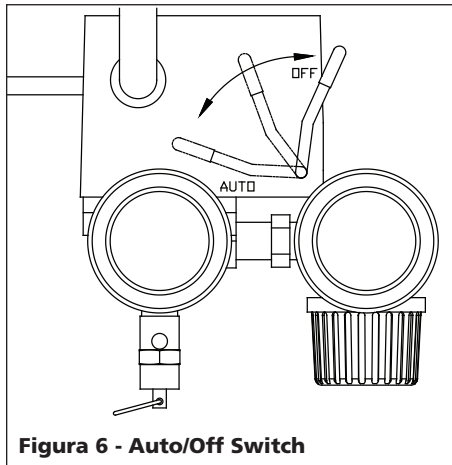

Figura 6 - Auto/Off Switch
- **Pressure Switch** - Auto/Off Switch (Figura 6) - In the **AUTO** position, the compressor shuts off automatically when tank pressure reaches the maximum preset pressure. In the **OFF** position, the compressor will not operate. This switch should be in the **OFF** position when connecting or disconnecting the power cord from the electrical outlet or when changing air tools.